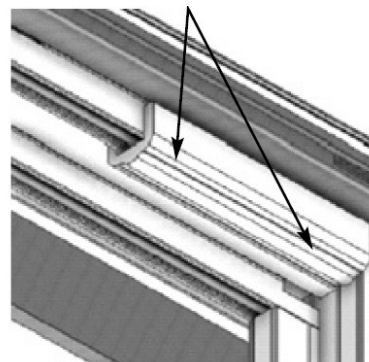

Figure 30
53. Install the panel bumper (Item 21) using two screws (Item 46) through the center of the bumper at 1/4" from each end (Figure 30).